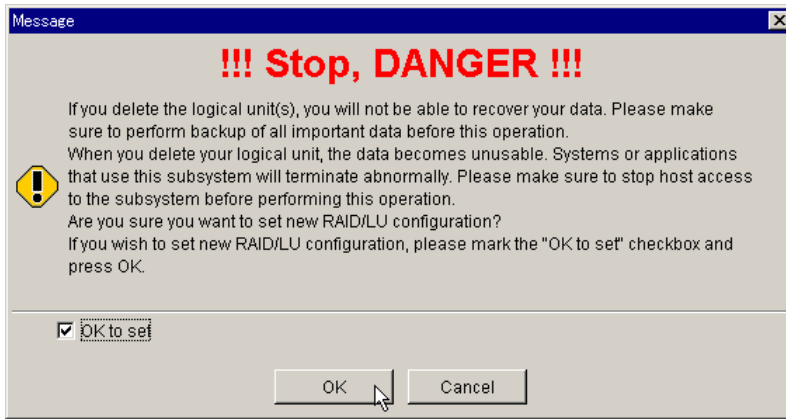

Figure 5.45 User Data Deletion Warning Message
10. A warning message displays, stating that user data in the affected logical units will be invalidated (see Figure 5.45). You should already have backed up your user information. Click **OK** to continue, or click **Cancel** to cancel.